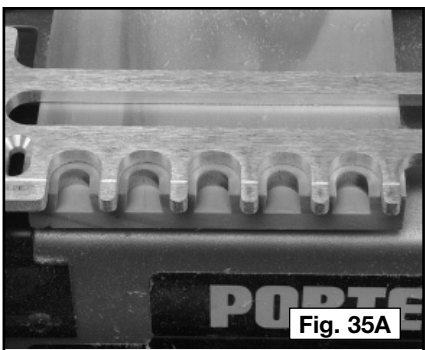

Fig. 35A
- Step 1** - Cut the tails. Clean out all of the areas between the fingers (Fig. 35A).